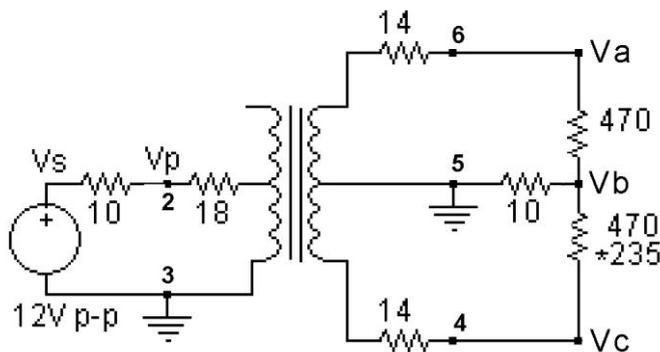

Figure 3-6
1. Connect the circuit in Figure 3-6. Set the generator to produce a 400Hz, 12V p-p sine wave with no offset. Connect oscilloscope channel 1 to measure  $V_p$  and channel 2 to measure  $V_s$ . Trigger on channel 1.
3. Simulate the circuit of Figure 3-6 and compare your results to the to your measurements.